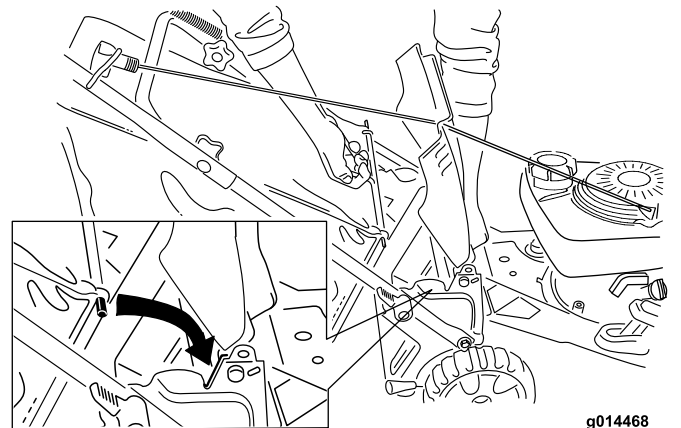

Figure 18
2. Raise and hold up the rear deflector, install the bag in the notches, and lower the rear deflector (Figure 18).